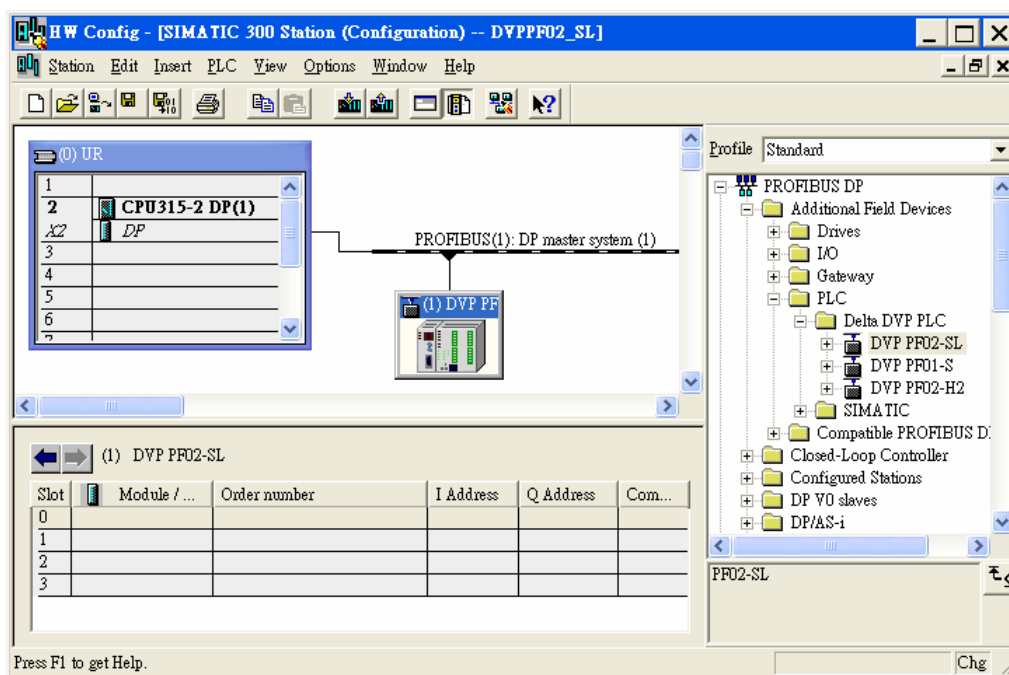

Figure 10-22
3. DVPPF02-SL is now added to the PROFIBUS DP bus, as Figure 10-22.